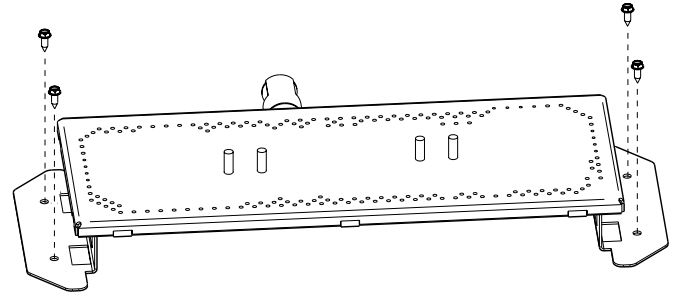

Figure 21. Remove four sheet metal screws to lift burner out of the firebox.
7. **Lift out the Burner Plate** with removal of four screws from the firebox floor. See fig. 21.